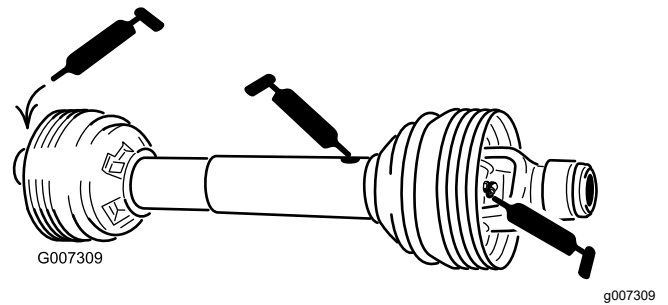

Figure 31
7. Grease the PTO shaft (Figure 31).